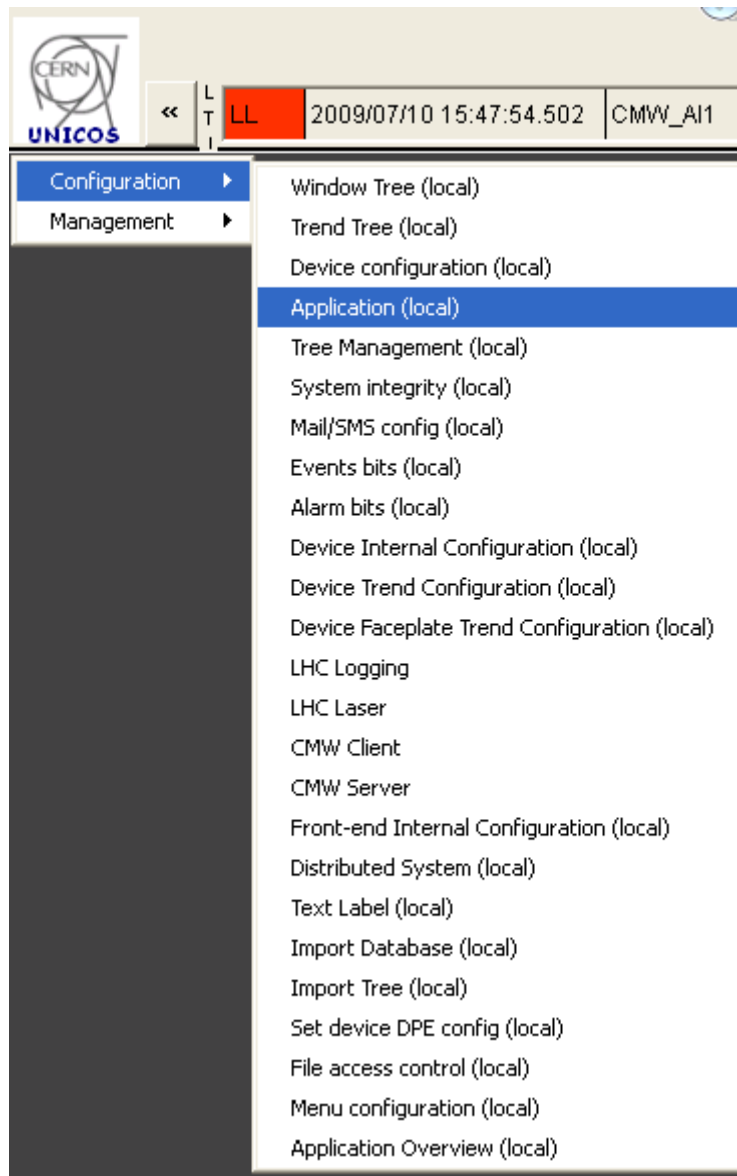

Figure 5: open the application configuration.
- open the application configuration (Figure 5 and Figure 6) and set the navigation panel to 'vision/unCMWDeviceTestAddress.pnl' (located in the installed\_components/panels folder)